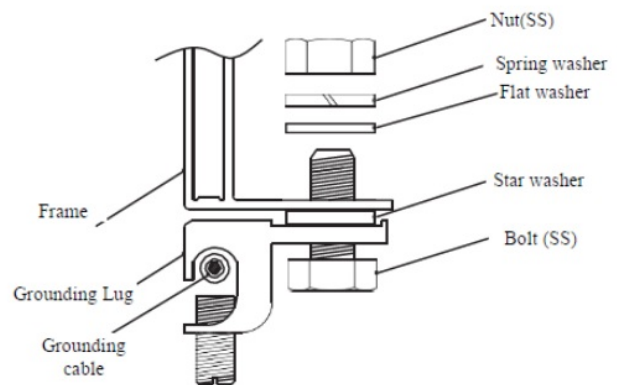

Figure 8
- First, peel the grounding cable to a proper length without damage to the metal core. Then insert the peeled cable into the lug, tighten the screw. As shown in Figure 8, connect the lug to the aluminum frame with stainless steel bolts and connection components.